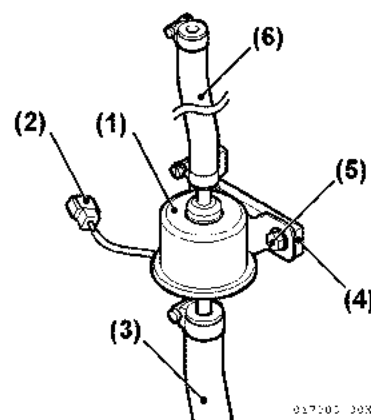

Figure 6-17
3. 3JH5E and 4JH5E: Disconnect electrical connector (Figure 6-17, (1)).